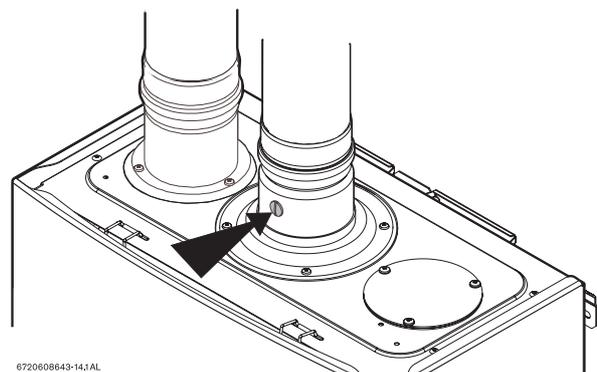

Fig. 61 Measuring port
- ▶ Remove brass flat head screw on the exhaust collar as seen in Fig. 61.